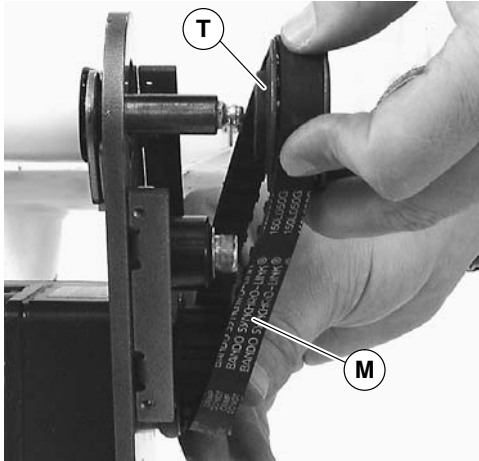

Figure 20
**NOTE:** If timing belt does not slide over pulley flange, loosen driven pulley set screws (T of Figure 20) and remove pulley with belt (M). For re-installation, see steps 6 through 9 on page 7.